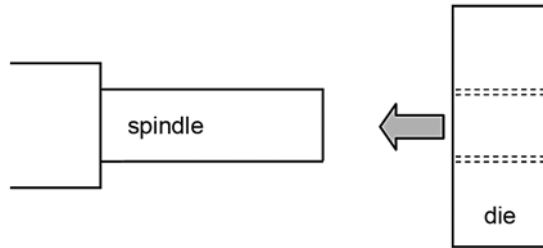

Figure 12
- j. i. Figure 12 shows the die ready to cut the thread. Complete the sketch to show how the spindle should be prepared before using the die.